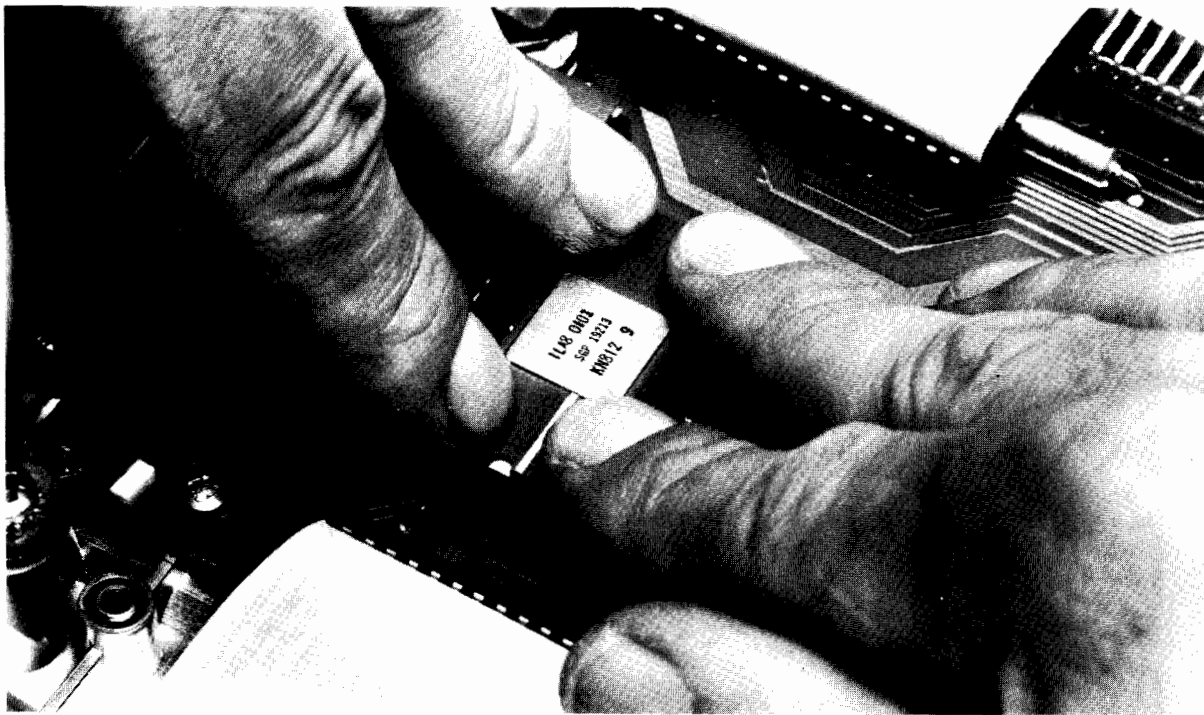

Figure 2-5. Pressing IC Into Socket
- c. Press down evenly along both sides of the IC until it snaps securely in the socket. (See figure 2-5.) When the IC is properly inserted, both sides of the IC should be the same height above the socket.